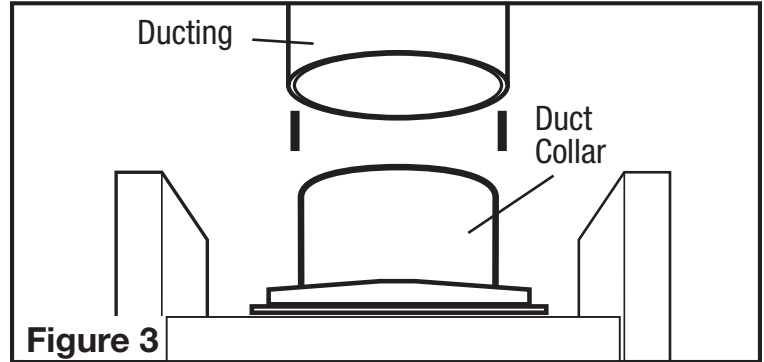

Figure 3
1. Connect the ducting to the fan's duct collar (**Figure 3**). Secure in place using tape or screw clamp. Always duct the fan to the outside through a wall or roof cap. It is recommended that low restriction termination fittings be used.